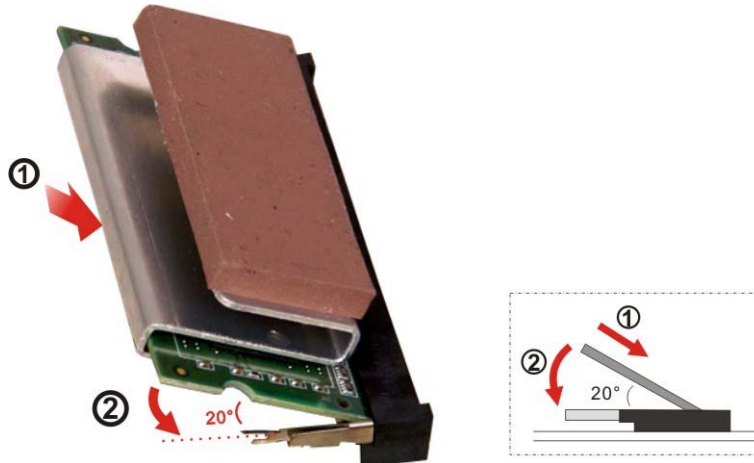

Figure 3-4: SO-DIMM Installation
Step 5: Insert the SO-DIMM. Push the memory in at a 20° angle (Figure 3-4)
Step 6: Seat the SO-DIMM. Gently push downwards and the arms clip into place. See Figure 3-4.